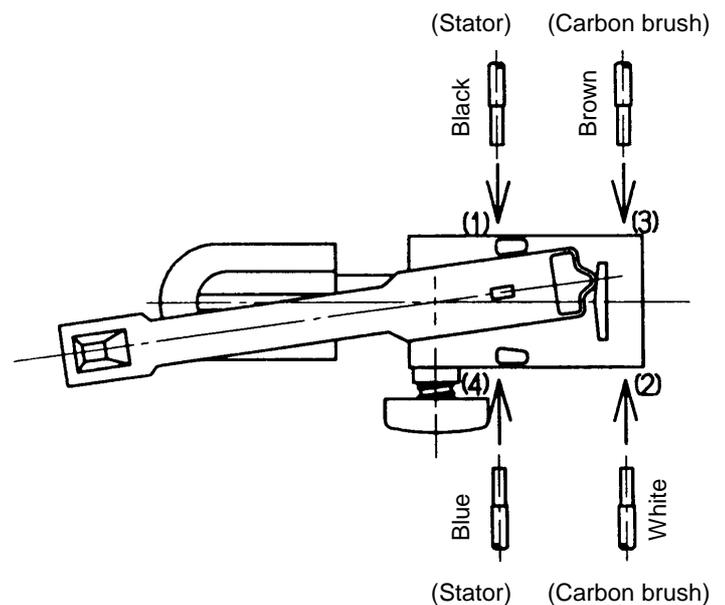

Fig. 21 Wiring of reversing switch (DH 24PB)
(2) Wiring of reversing switch (DH24PB)
Insert the lead wire (black) coming from the stator into the terminal (1) of the reversing switch, and the lead wire (white) into the terminal (2) as shown in Fig. 21. Insert the lead wire (brown) coming from the carbon brush into the terminal (3) and the lead wire (blue) into the terminal (4) . After the insertion, pull each lead wire slightly to check the lead wires do not come off. To disconnect the lead wires, insert a small slotted-head screwdriver into the windows near the terminals and pull out the lead wires.